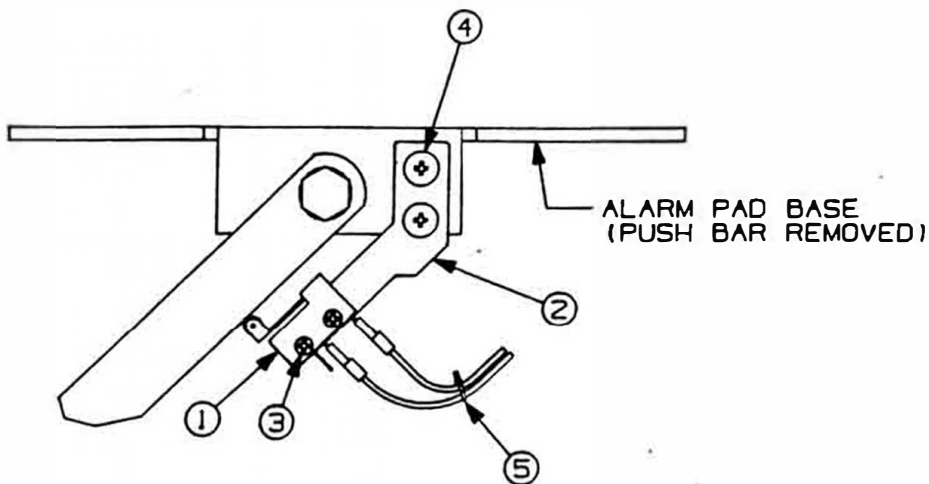
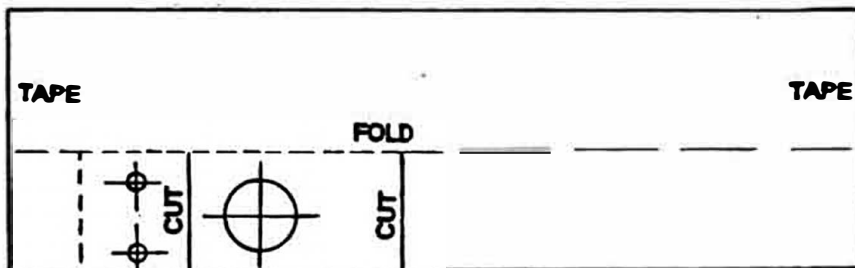

Figure 1: Alarm Accessory Kit Assembly (units manufactured before 4/21/1997)
Figure 3: Drill Template (for alarmed units manufactured before 4/21/97)
Alarm Accessory Kits A103-002 and A103-004 provide a remote switch for connecting existing alarm systems, magnetic contacts, and so on, to the ARM-A-DOR. The kits can be used with either non-alarmed Assemblies A101-001 and A102-001 or alarmed Assemblies A101-002 and A102-002. Accessory Kits A103-002 and A103-004 are identical; A103-002 is packed individually and A103-004 is packed ten to a box. Each kit contains the items listed in the table at right. Refer to Figure 1 or 2 to locate each item.
3. On non-alarmed units, attach the switch (Item 1) to the switch bracket (Item 2) using the two #2-56 x .38" thread-forming screws (Item 3) as shown in Figure 1.
4. To attach the remote switch to an alarmed unit (A101-002 or A102-002), drill two (2) mounting holes in the alarm pad base (Step 5). For non-alarmed units (A101-001 and A102-001), skip to Step 7.
5. Cut out and fold the drill template (see Figure 3) to locate the positions for two mounting holes in the pad base. Tape the template to the opposite flange which the existing alarm switch and bracket are mounted to. With the template in place, mark the holes using a center punch.
6. Remove the template and drill two (2) 0.125 diameter holes through the flange.
7. Attach the switch/bracket assembly to the alarm pad base using the two #6-32 x .25" thread-forming screws (Item 4), observing the position of the switch in Figure 1. The roller on the switch arm should contact the link arm and depress the switch sufficiently to close it when the push bar is in the full OUT position.
12. Connect the external wiring to **C** and **NO** terminals on the switch as shown in Figure 1 or 2. This creates an open contact when the push bar is depressed. Tie wires together with the cable tie (Item 5) approximately two inches (2") from the switch. Then route wiring along the link arm and outer tube assembly toward the hinged side of the door and to the auxiliary device.